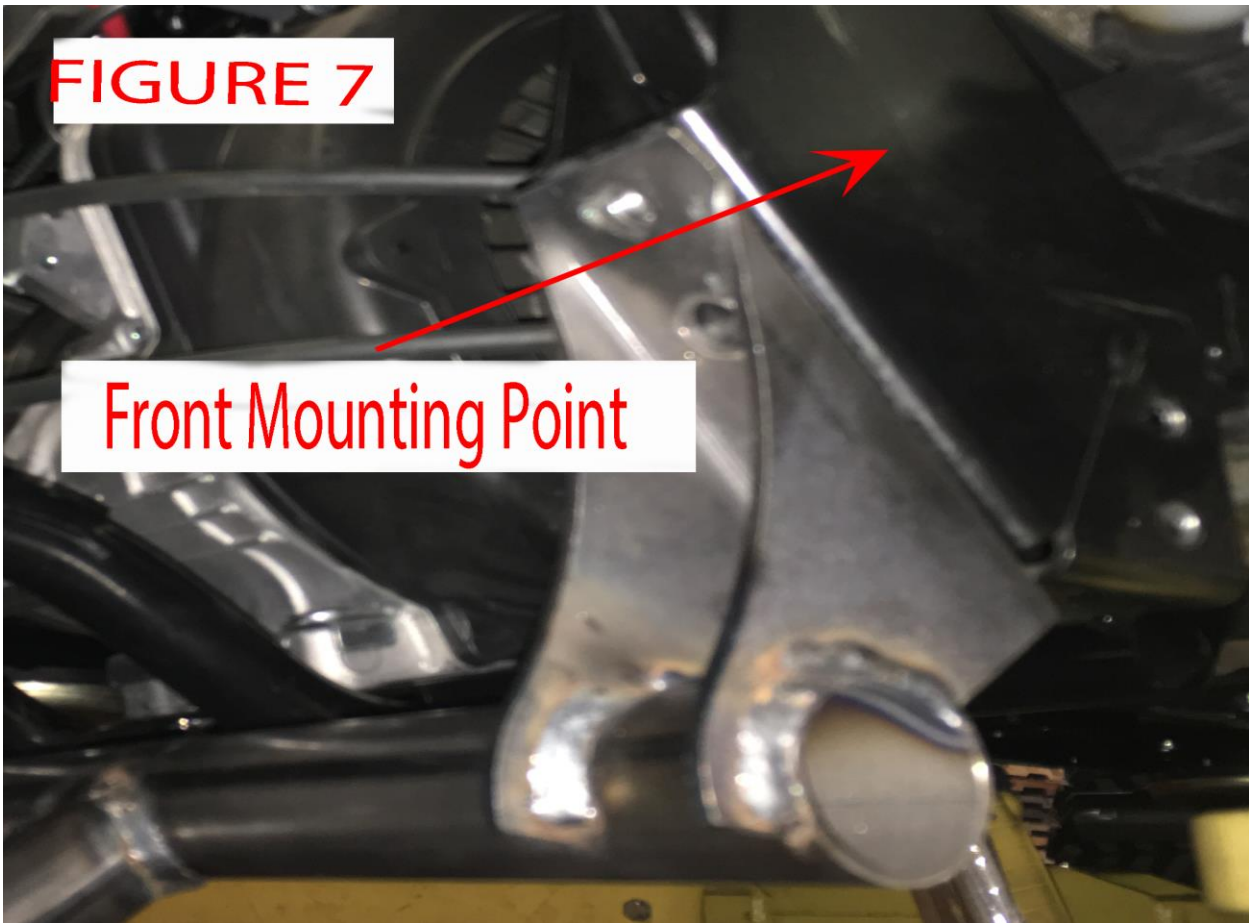

FIGURE 8
10. Lightly secure rear brackets with **supplied 3/8”x 2 ½” bolts, washers and nut.** Need to drill stock holes through rear of frame to complete installation of the rear brackets. **See figure 8**